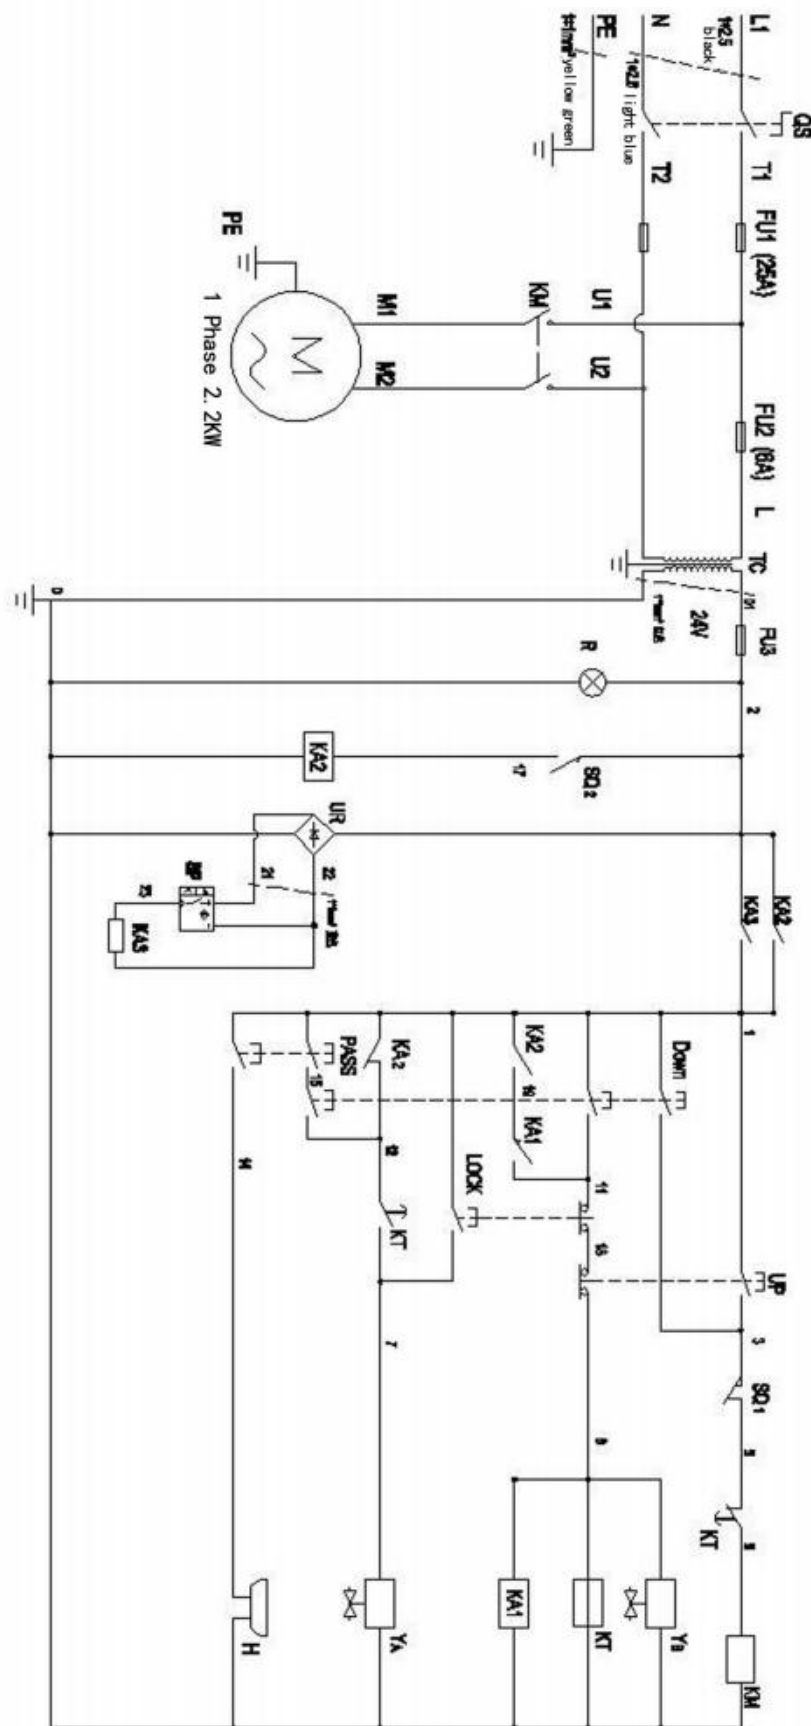

Fig. 12
1.2 Circuit Diagram (See Fig. 12)